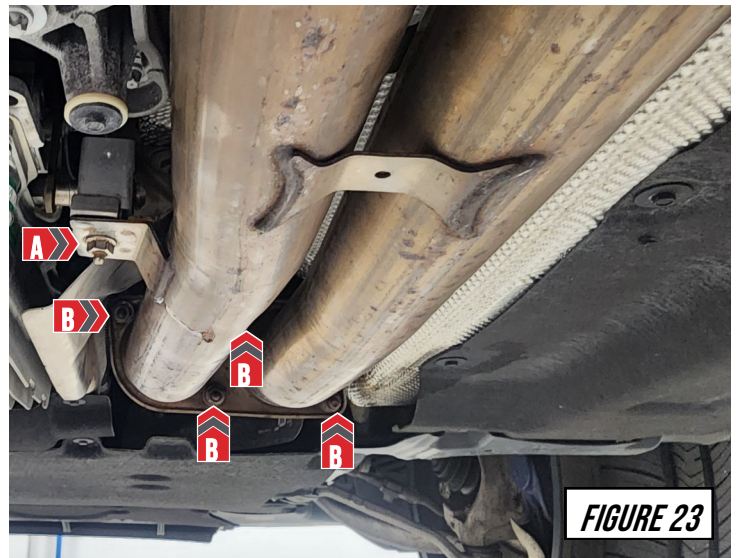

FIGURE 23
Remove the OE hanger bolt, as shown at (A), and the flange hardware, as shown at (B) in **Figure 23**, then fully remove the OE midpipe from the car.